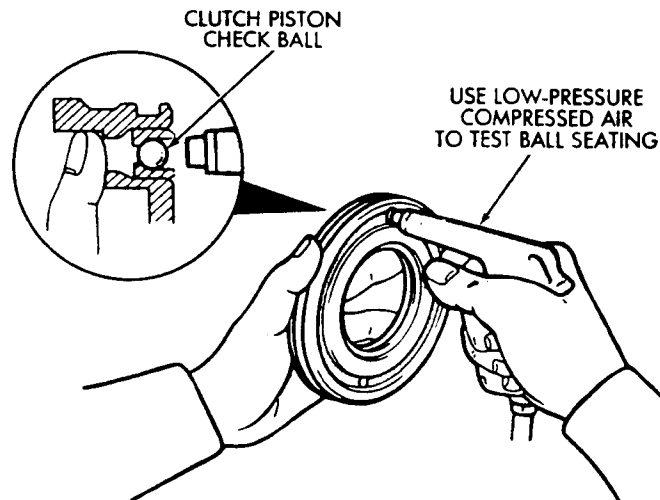

Fig. 17 Testing Clutch Piston Check Ball
(19) Check clutch piston check ball (Fig. 17). Shake piston to see if ball moves freely. Then check ball sealing by applying low pressure compressed air to ball inlet as shown. Air should not leak past check ball.